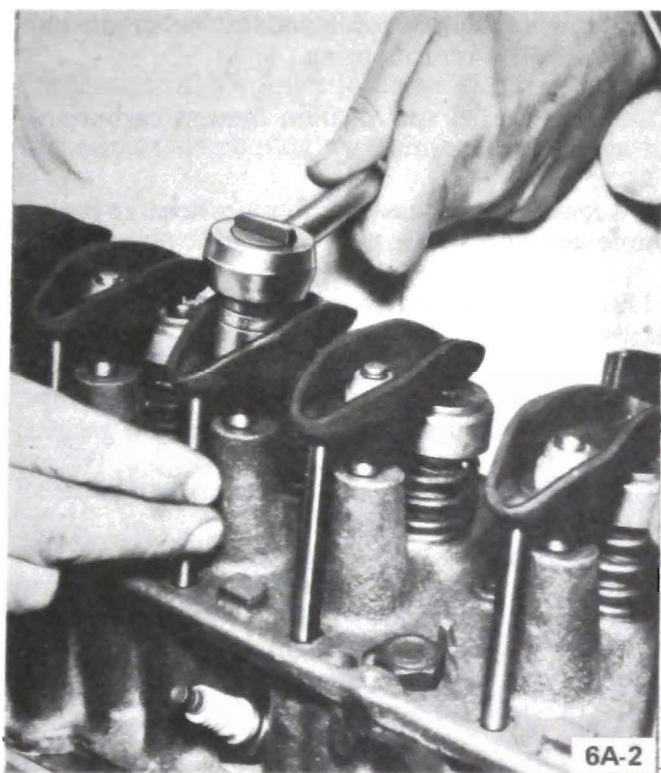

Figure 6A-2 Valve adjustment
c. Back out adjusting nut until lash is felt at the push rod, then turn in adjusting nut until all lash is removed. This can be determined by checking push rod side play while turning adjusting nut. See Figure 6A-2. When play has been removed, turn adjusting nut in one full additional turn (to center lifter plunger).